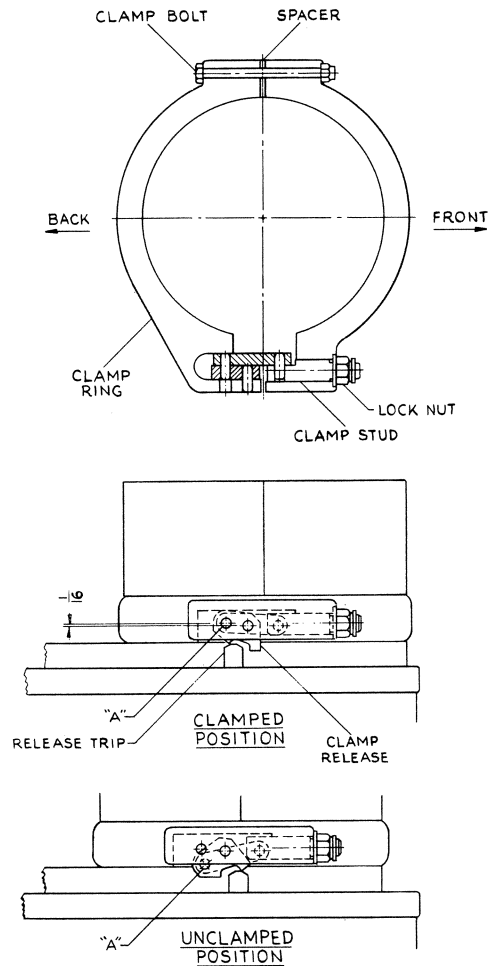

FIG. 5
1. The clamping action of the turret clamp ring is controlled by a toggle arrangement (Figure 5). The clamp bolt should fit freely in both halves of the clamp ring and its nut should be adjusted so that when the turret is in the clamped position, a .005" to .010" feeler can be inserted between a section of the clamp ring and the spacer.
The height of the trip release should be such that pin "A" lines up with the hole in the back section of the clamp ring (Figure 5) when the turret is in the clamped position. This locates the clamp release 1/16" over center and keeps the clamp ring from releasing. After some period of time the clamp release may become worn. To align pin "A" with the clamp ring hole, raise the threaded, four sided trip release the required amount.